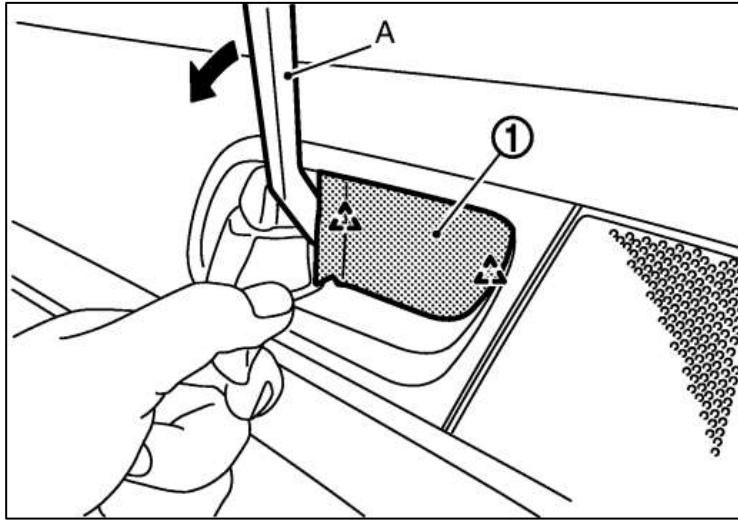

Figure 64
2. Behind the Door Handle, remove the small Trim Piece using a Trim Removal Tool. *Figure 64.*